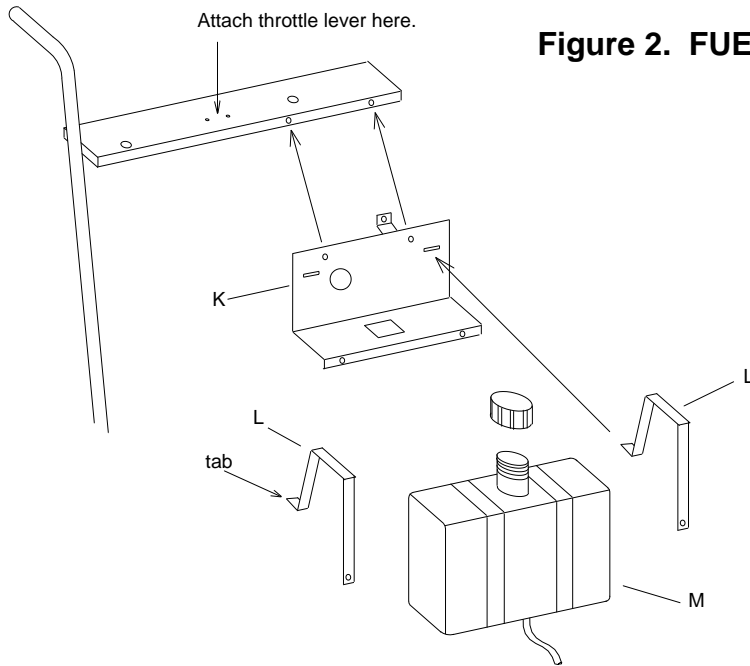

Figure 2. FUEL TANK ATTACHMENT
7. **See Figure 2.** Place tank straps "L" in the tank bracket "K" slots and bend tabs up and back against the bracket. Bolt the tank bracket to the handle bar assembly using three round headed bolts, with the round heads of two bolts against the fuel tank. Place the fuel tank in position and attach the straps at their lower end using two bolts.